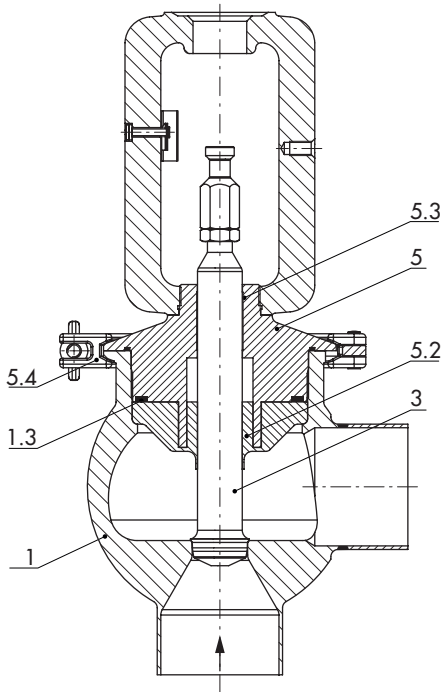
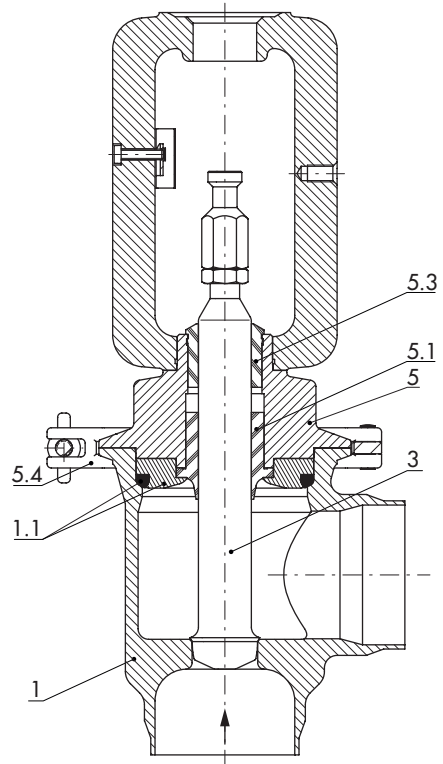
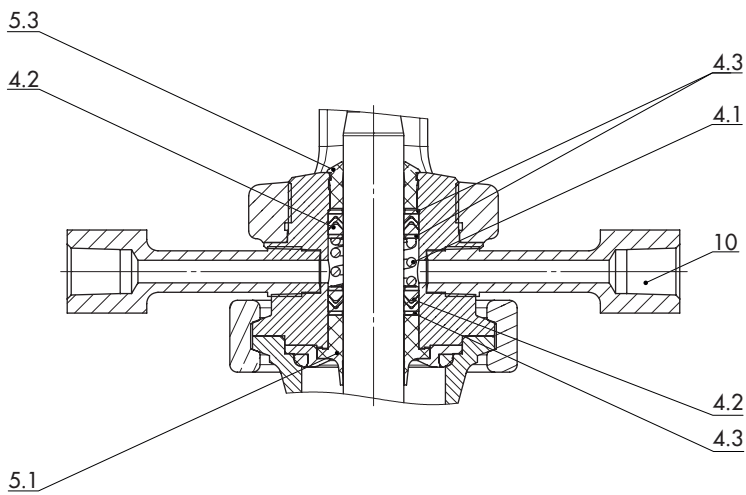
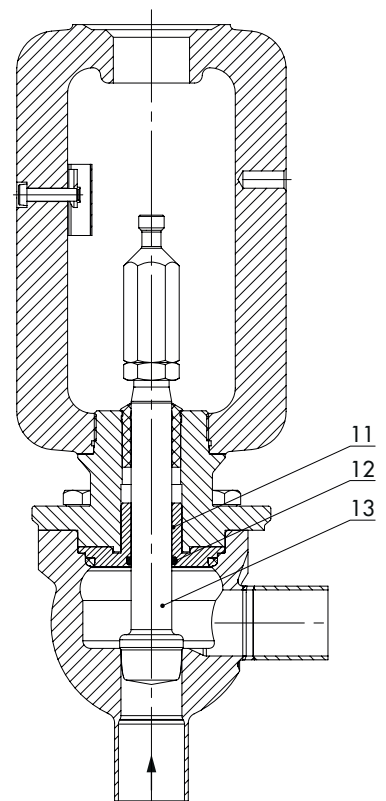

Fig. 3: Type 3347 Valve, bar-stock body, PTFE-guided version
Fig. 4: Type 3347 Valve, hollow-mold cast body, PEEK-guided version
Fig. 5: Optional steam line connection
Fig. 6: Optional anti-crystallizing seal
- Bonnet with **anti-crystallizing seal** (Fig. 6)
Principle of operation (Fig. 3 to Fig. 6)
Fig. 3 shows the PTFE-guided version. A body and stem PTFE seal (5.2) is used to seal the plug stem in the body. Fig. 4 shows the PEEK-guided version, in which the plug stem is additionally guided and sealed by a bushing (5.3). The steam line connection (4.1, 4.2, 4.3) in Fig. 5 is used to sterilize the plug stem with steam or a sterile fluid.
Legend for Fig. 3 to Fig. 6
²⁾ Only for metal-seated plug with body and stem seal (see Fig. 3)